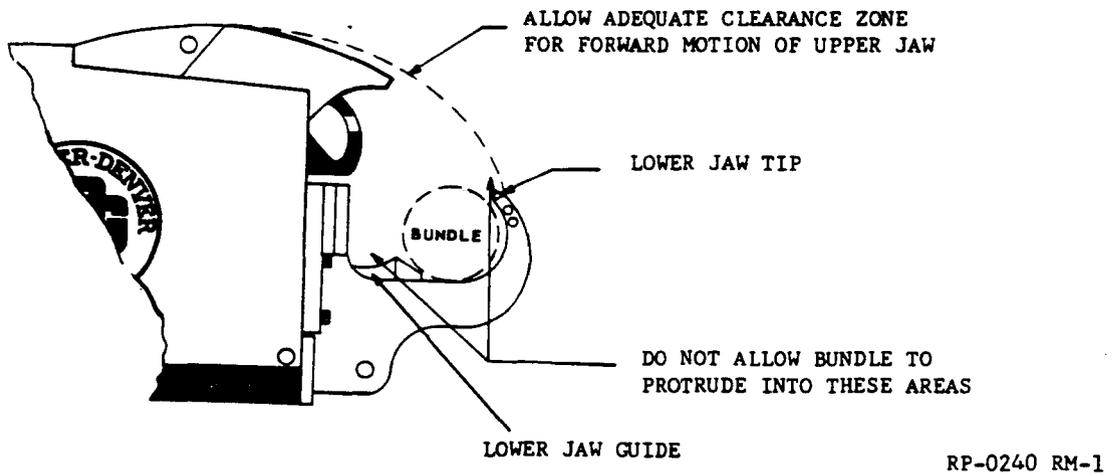

FIG. 9 SIDE VIEW OF R-4411 L1
5.92 The bundle of wires must be positioned between the lower jaw's tape guide and tip (FIG. 9) in order to be completely encircled by the tape while the tie is being made.